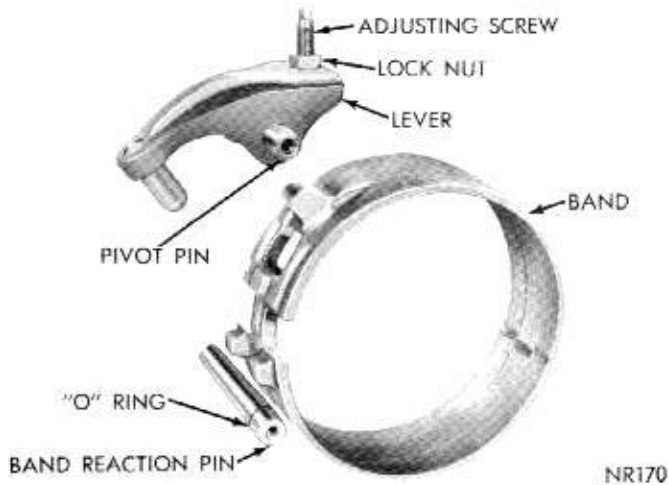

Fig. 86—Double Wrap Band and Linkage—Disassembled (A-904-LA Transmission Only)
(2) Place band into case resting two lugs against band reaction pin (Fig. 86).
(3) Install low-reverse drum into overrunning clutch and band.
(4) Install operating lever with pivot pin flush in
case and adjusting screw touching center lug on band (Fig. 86).